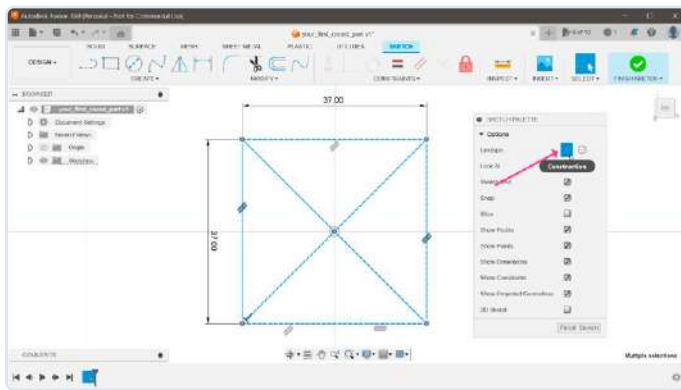

Figure 3: Changing lines definition into *Construction* mode.
3) We won't use this shape to extrude the enclosure since we need space around the PCB. It makes sense to select all the lines and turn those into construction lines by clicking the *Construction* button in the *Sketch Palette* dialog. This tells Fusion 360 that we use these only as helper lines (Figure 3).